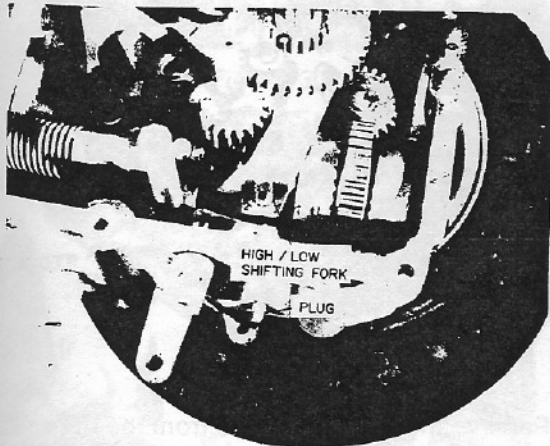
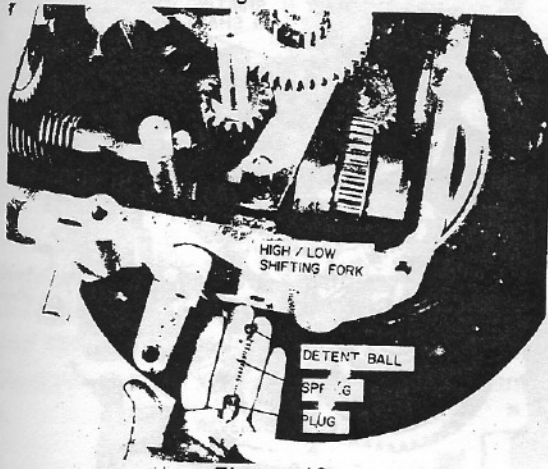

Figure 18
Figure 19
24. Before removal of the High/Low (2 Speed Gear) from shaft #1, the High/Low shifting fork will have to be removed. Remove the plug (fig 18) using caution; the plug compresses a spring. Remove the spring and ball from the transmission case. (See fig 19). Remove the shifting fork and High/Low gear from shaft #1.